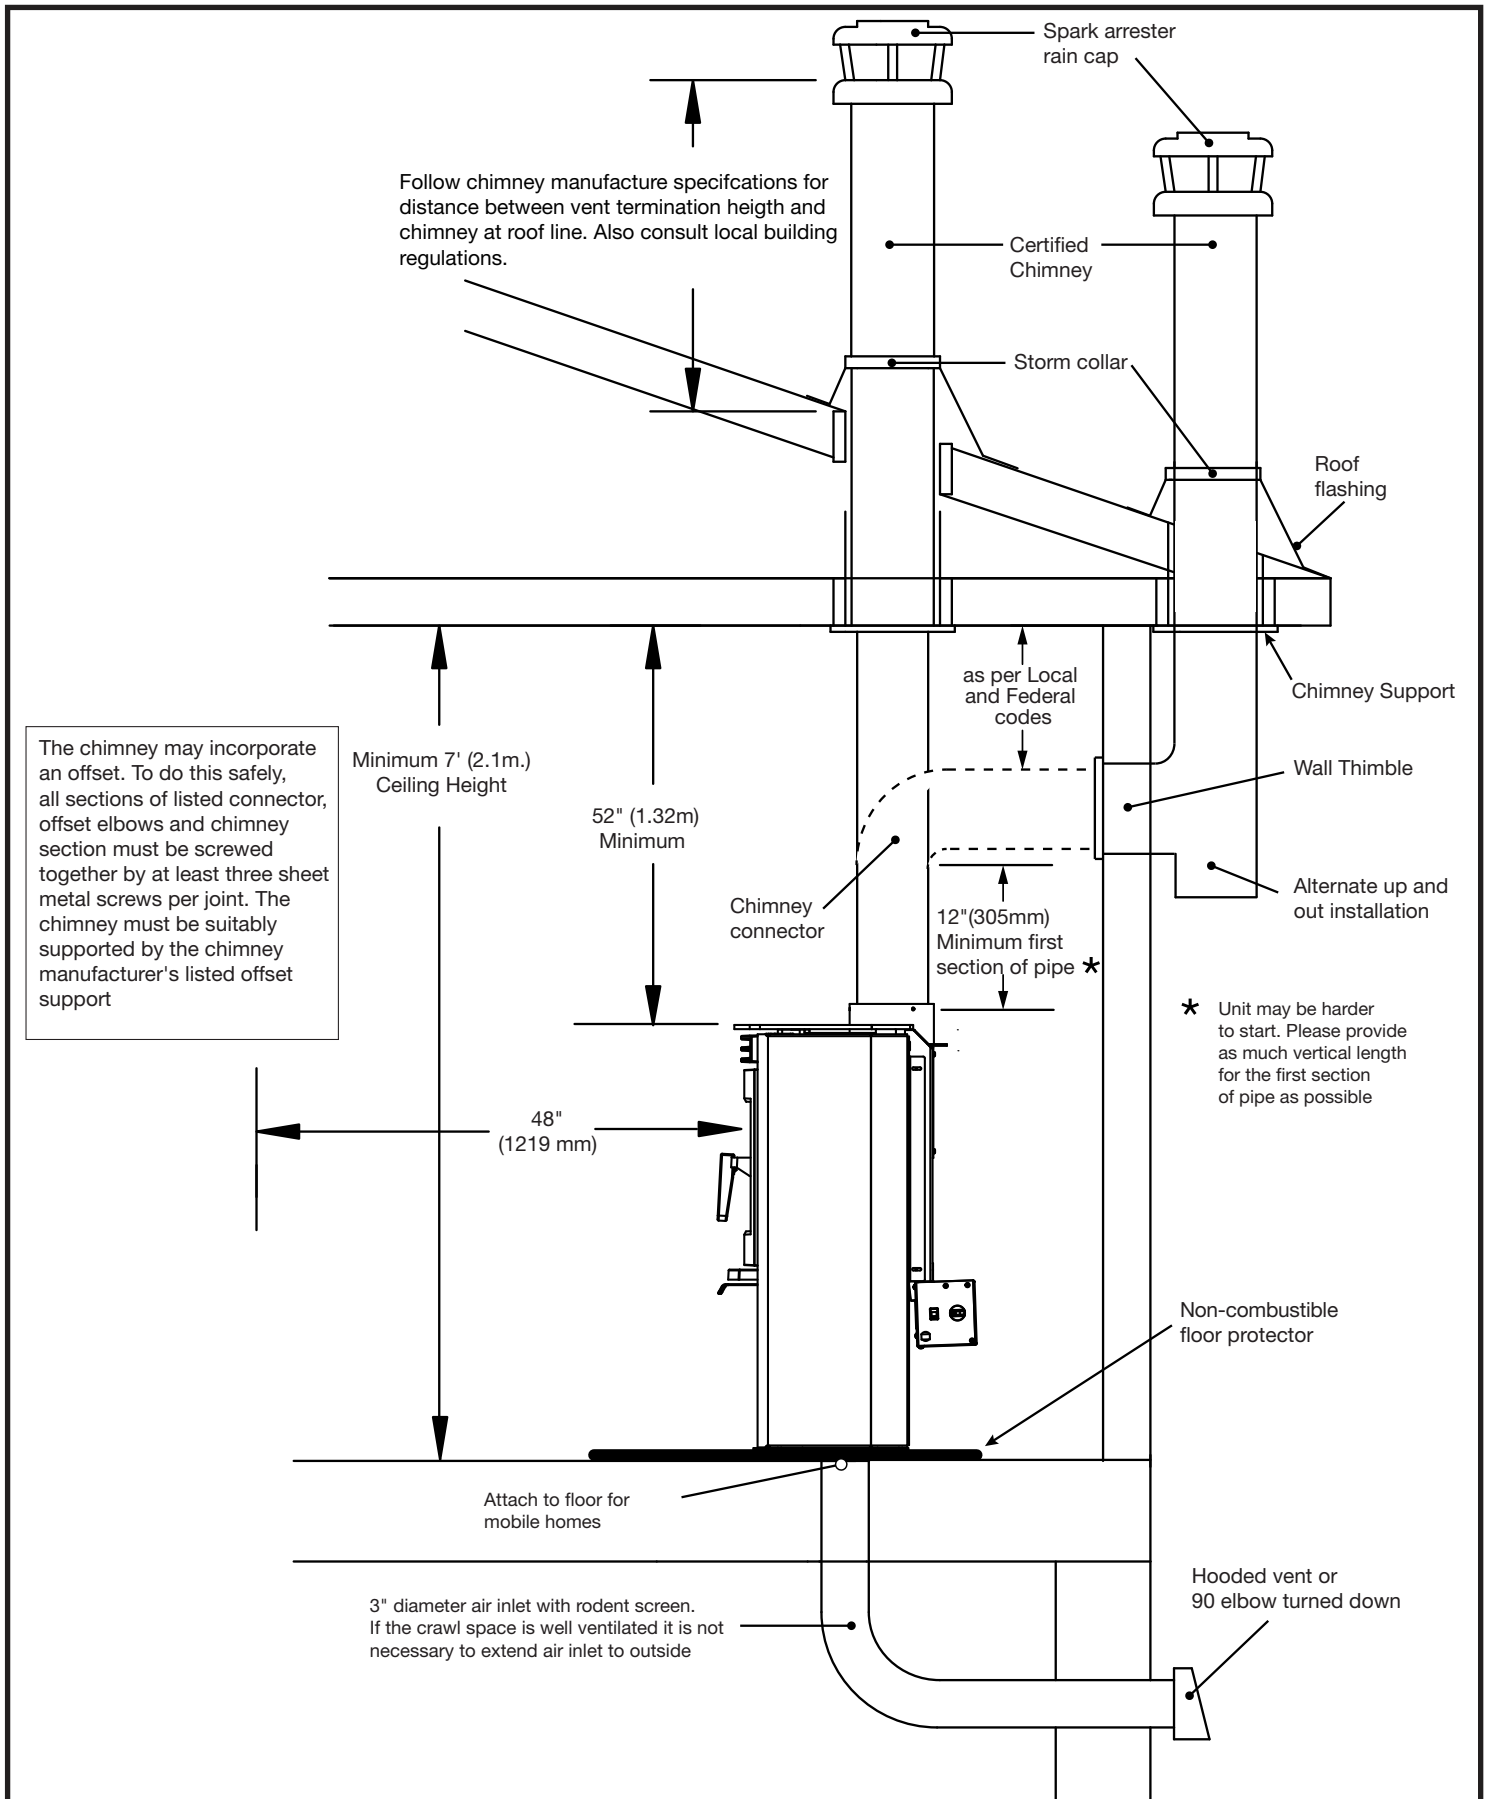

Figure 11: Common residential venting configuration.
- Outside air supply must be used for Mobile Home installations. See "Figure 11" on page 20.
NOTE: Longer chimney lengths and different pitch flashings may be used. All other parts listed must be installed (See Figure 11 on page 20) Install all components to the connector or chimney manufacturer's installation requirements. Consult your chimney supplier for installation advice.
This hole must get its air from a ventilated crawl space or be extended with duct to the outdoors See Figure 11 on page 20. The use of outside combustion air for residential installation requires the unit to be secured to the structure to prevent dislodging of the air duct.